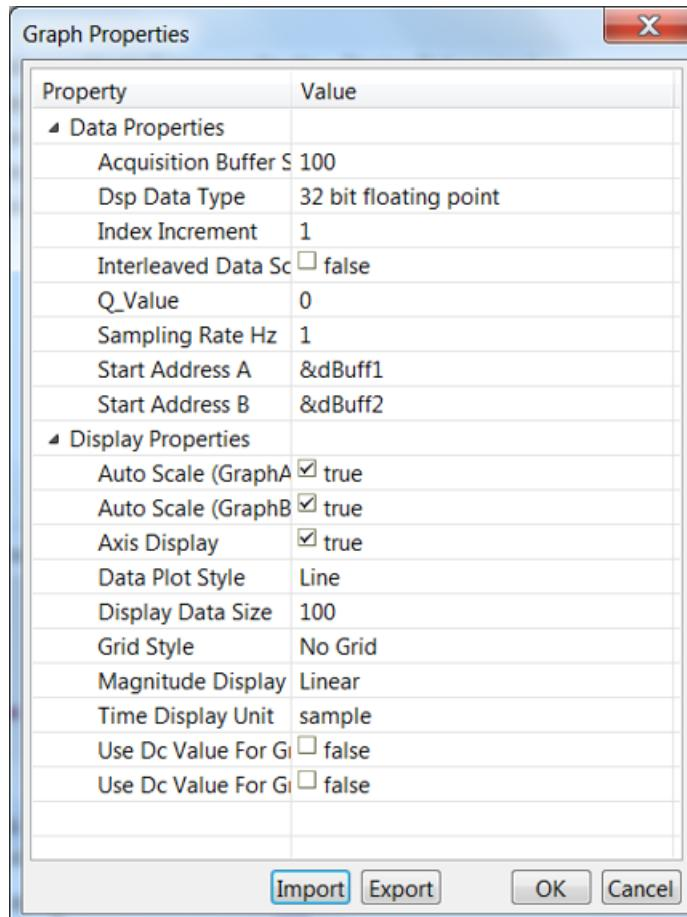

Figure 22. Graph Settings
2. The current and voltage measurements can be verified by viewing the data in the graph window. These values are logged in the slower 10-kHz routine. Go to *Tools* → *Graph* → *DualTime*, and click on *Import* and point to the *graph1.GraphProp* file inside the project folder. This file will populate the graph properties window. Alternatively, the user can enter the values as shown in the Figure 22. Once the entries are verified, click *OK*. Two graphs will appear in CCS. Click on *Continuous Refresh* on these graphs. A second set of graphs can also be added by importing the *graph2.GraphProp* file.